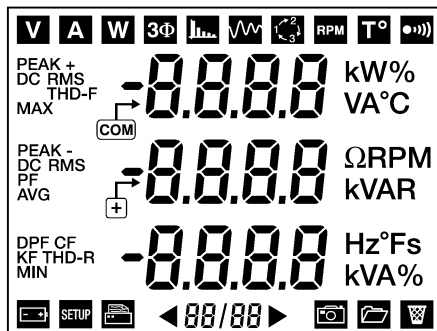

Figure 69: The first screen on start-up.
- When the first screen is displayed (display of 172 segments, see Figure 69, on page 28), press and hold the yellow key () until a beep is heard.